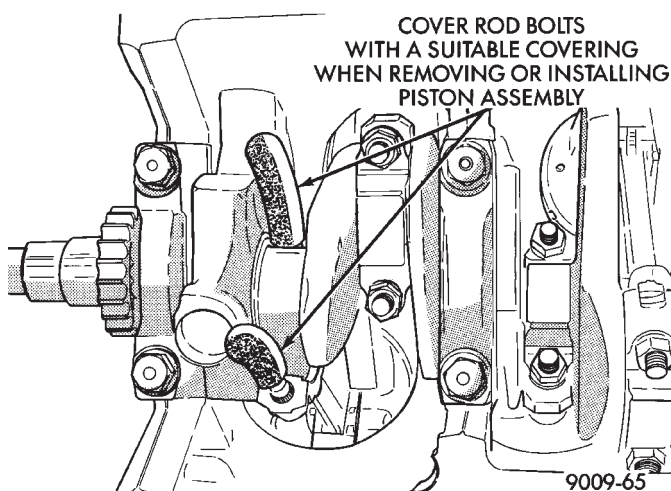

Fig. 4 Connecting Rod Protectors
(4) Squirt hole on connecting rod must face timing belt end of engine.
(5) Pistons and connecting rods must be removed from top of cylinder block. Rotate crankshaft so that each connecting rod is centered in cylinder bore.
(6) Remove connecting rod cap. Install connecting rod bolt protectors on connecting rod bolts (Fig. 4). Push each piston and rod assembly out of cylinder bore.